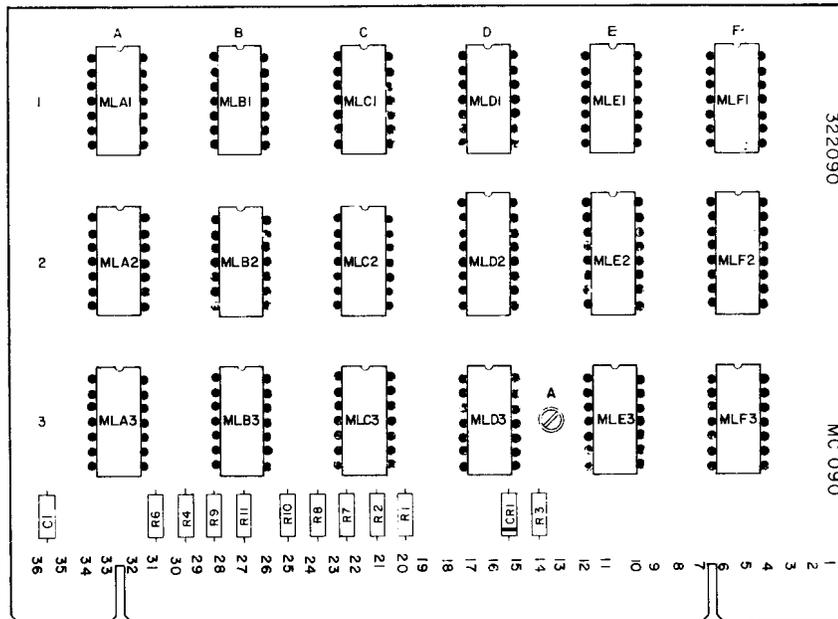

Figure 11 - MC090 Receiving Distributor/Regenerator
5.30 Remove TP322090 (MC090) circuit card from module connector location ZB115; install programming screw in option A (Figure 11).